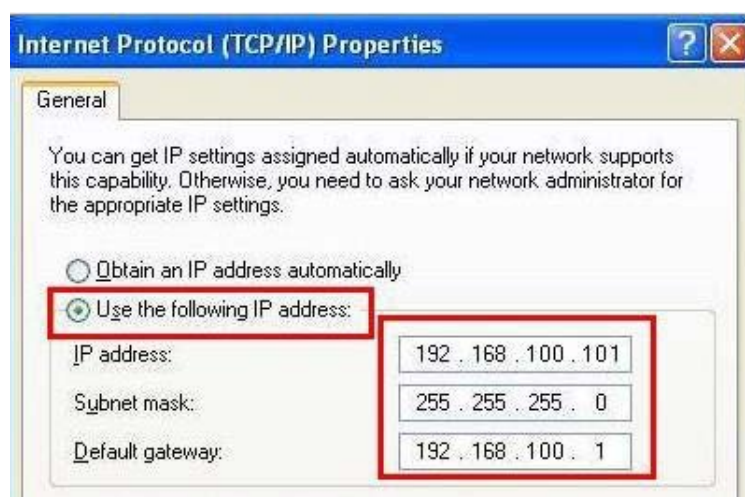

Figure 21 - Configuring the IP Address, Subnet mask, and Default gateway
2. Configure the **IP address**, **Subnet mask**, and **Default gateway** on your computer so it is on the same network segment as the camera (Figure 21).